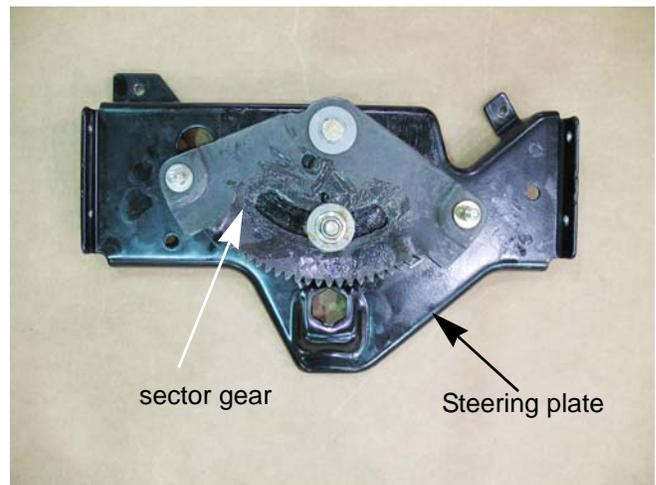

Figure 3A.13
12. Remove the bolt that the sector gear pivots on using two 9/16" wrenches. See Figure 3A.13.